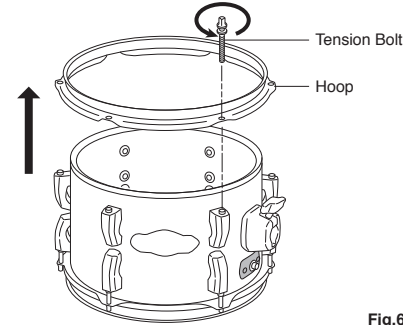

Fig.6
1. Loosen the Tension Bolts on the batter side of the drum using the provided Drum Key and remove the Hoop (Fig. 6).